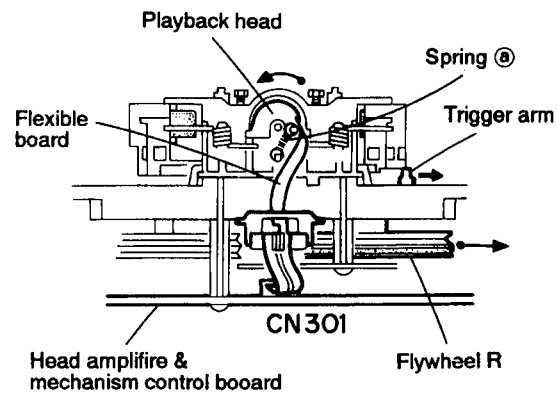
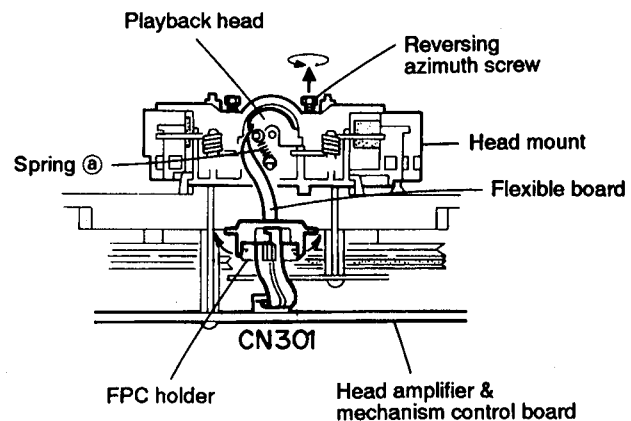

Fig.5-25 (Mechanism A side)
Fig.5-26 (Mechanism B side)
2. When the flywheel R is rotated in counterclockwise direction, the playback head will be turned in counterclockwise direction from the position in Fig. 5-25 to that in Fig. 5-26.
6. Remove the spring ③ from behind the playback head.
1. Reassemble the playback head from the front of the head mount to the position as shown in Fig. 5-26.
3. Set the spring ③ from behind the playback head.
4. Attach the flexible P.C. board to the chassis base, and fix it with the FPC holder as shown in Fig. 5-26.